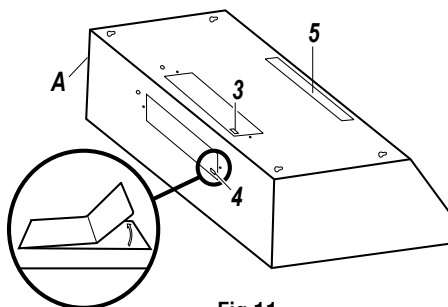

Fig.11
- Choose the venting hole to remove for your installation type. Use the top hole (3) for a top venting installation and the back hole (4) for a back venting installation.
- Carefully remove the cover (3 or 4) of the appropriate venting hole using a flat head screwdriver or needle nose pliers (refer Fig. 11). Be careful not to leave any debris inside the range hood (A).